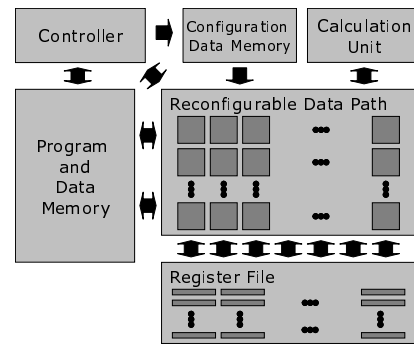

Figure 2: The overall view of Vulcan architecture
The overall view of Vulcan architecture is shown in Figure2. Configuration Memory has configuration data for every instructions. The structure of Reconfigurable Data Path (RDP) is an array of Programmable Elements (PE). PE is fine grain reconfigurable logic. Vulcan also includes a Calculation Unit consisting of multiplier and adder in order to accelerate arithmetic operations. In the execution flow of Vulcan, the Controller firstly fetches the instruction and loads configuration data into RDP. Secondly RDP or the Calculation Unit loads data and executes the instruction. Finally, RDP outputs calculated data. Currently we have Vulcan implemented on FPGA and plan to produce a Vulcan test chip in future.